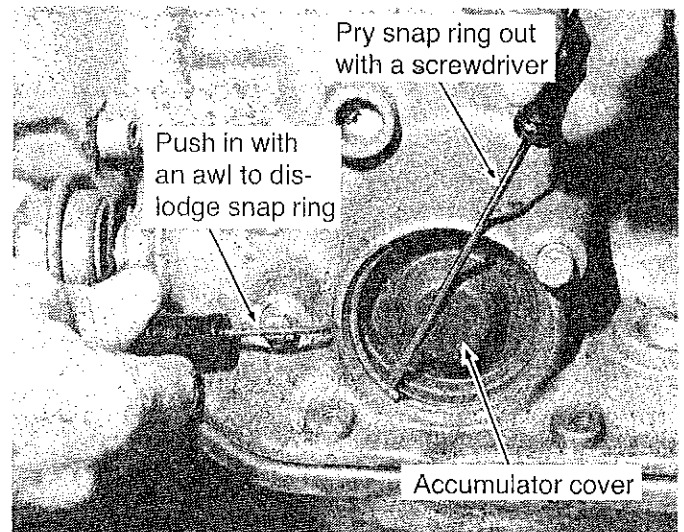

FIGURE 10
Step 16. Heavy Duty Only: Use an awl or small screwdriver to dislodge the accumulator snap ring located on the right side of the transmission case. (See Fig. 10) Pry the snap ring out with a screwdriver. There is some spring loading underneath so exercise care. Remove the accumulator cover, O-ring, and accumulator spring. Discard O-ring and spring. Install new O-ring supplied with the kit in position on the accumulator cover. Lubricate the O-ring with automatic transmission fluid and install cover and O-ring into case. Install snap ring making sure it is fully seated in its groove.